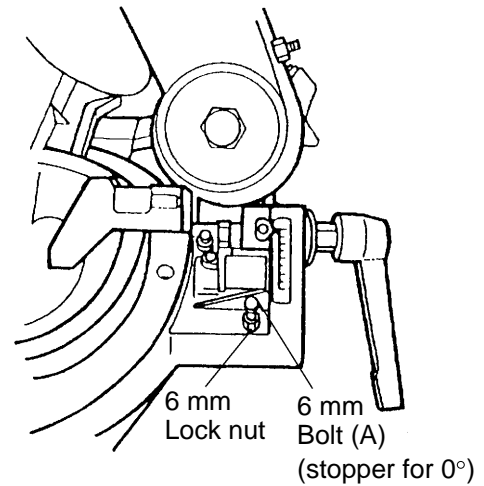
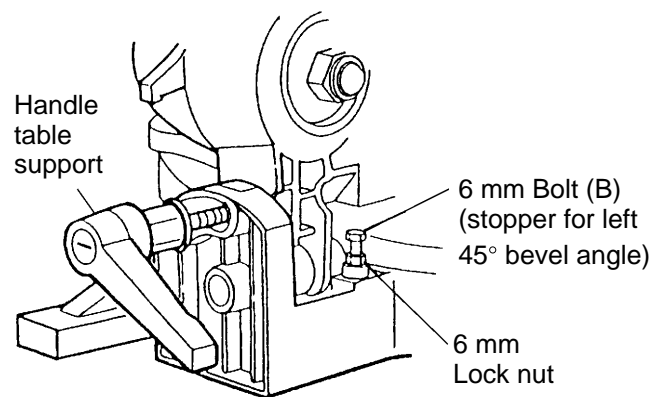

Fig. 10
Fig. 11
As illustrated in Fig. 10 and Fig. 11, adjustment of the bevel angle can be accomplished by loosening the 6 mm nut (lock nut) and turning 6 mm bolt (A) or 6 mm bolt (B) to raise it or lower it by an appropriate dimension to change the position at which it comes in contact with angle regulator.